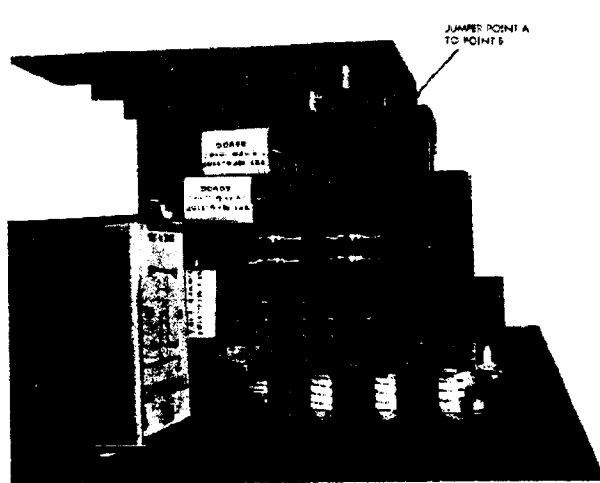

Figure 9. Input Switchboard Assembly
8. Simultaneously press the DUAL BAND DUAL RELEASE and SINGLE BAND 0.4 SEC. RELEASE buttons, thereby locking both down. Jumper point A. to point B. (See Figure 9 for location).
22. Remove jumper from point A and B. (See Figure 9).